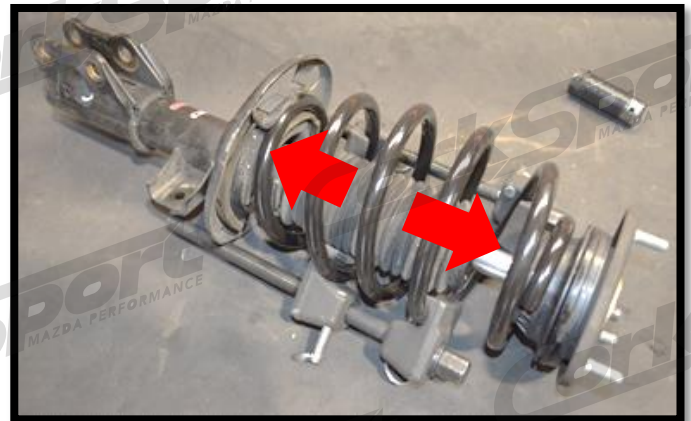

Figure 3g
- g) Replace the upper strut mount and reinstall the 17mm upper strut nut (as shown in Figure 3g). Tighten to 50ft-lbs.
- h) Remove the spring compressor from the strut assembly (Figure 3g).
g) Replace the upper strut mount onto the strut piston and reinstall the 17mm upper strut nut (as shown in **Figure 3g**). Tighten to 50ft-lbs.
h) Fully release and remove the spring compressor from the strut assembly (**Figure 3g**).